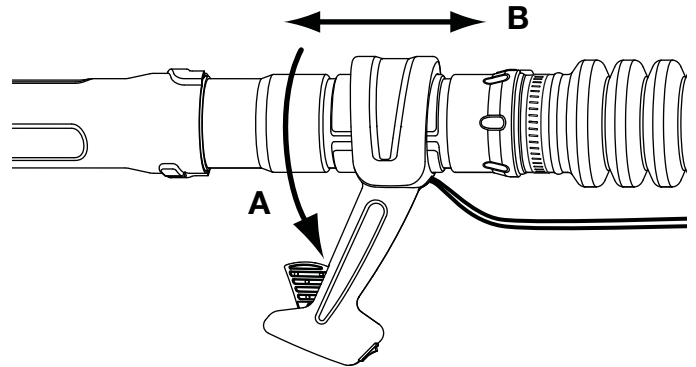

Fig. 7
1. Rotate the throttle grip counterclockwise around the blower tube until it is pointing directly downward (Fig. 7, A).
2. Pull or push the throttle grip along the handle tube until its distance from the backpack blower is comfortable (Fig. 7, B).